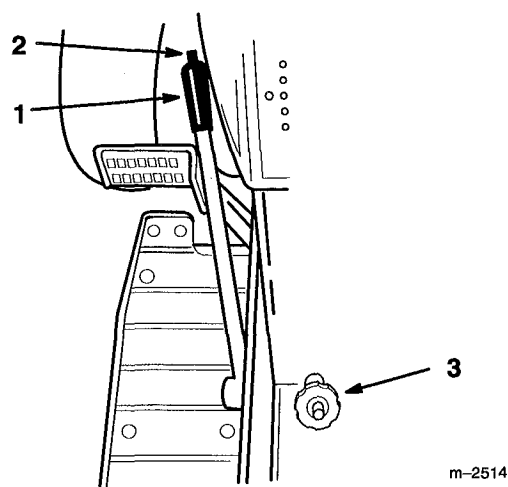

Figure 11
The attachment lift lever (Fig. 11) is used to raise and lower various attachments.
The Dial-A-Height control (Fig. 11) is used to limit the downward travel of the attachment. The knob is rotated to change the location of this stop, up or down.
1. Raise the attachment lift lever: Refer to Raising Attachments. In the raised position the Dial-A-Height knob (Fig. 11) can be rotated to change the stop location. Turn right to raise and left to lower the height of the attachment.